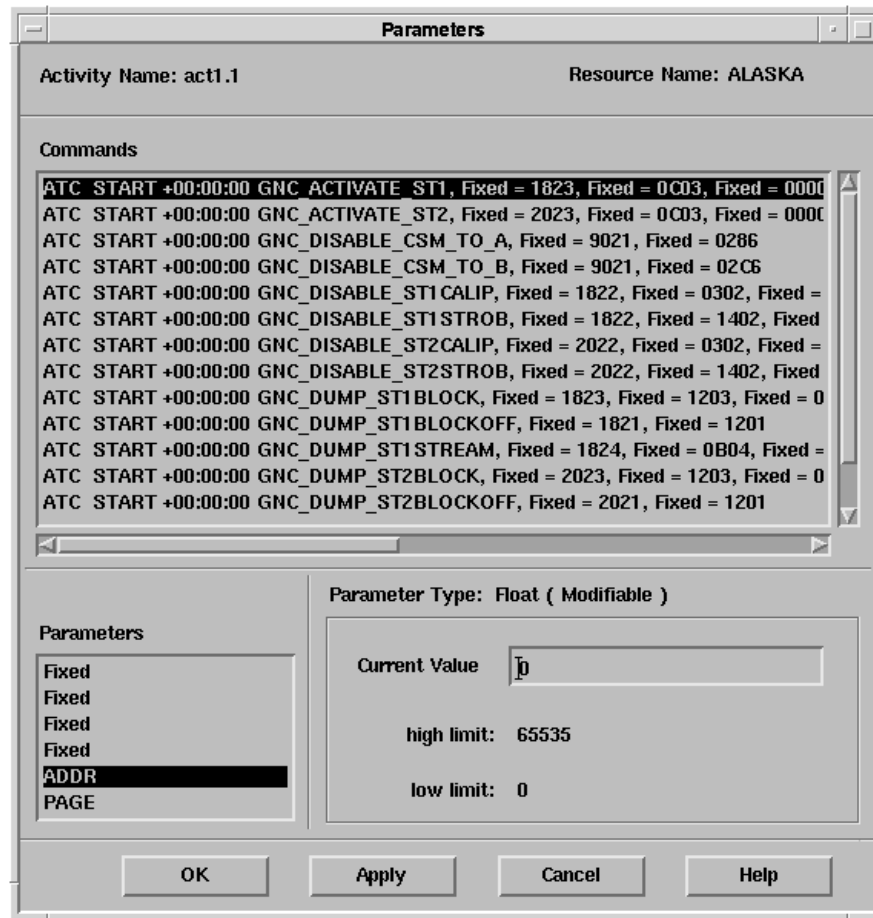

Figure 8.6.1.3-2. Floating Parameter Type
6. If the parameter is of type enumerated, change the value of the parameter by clicking on the desired value from the list of valid values (see Figure 8.6.1.3-3).